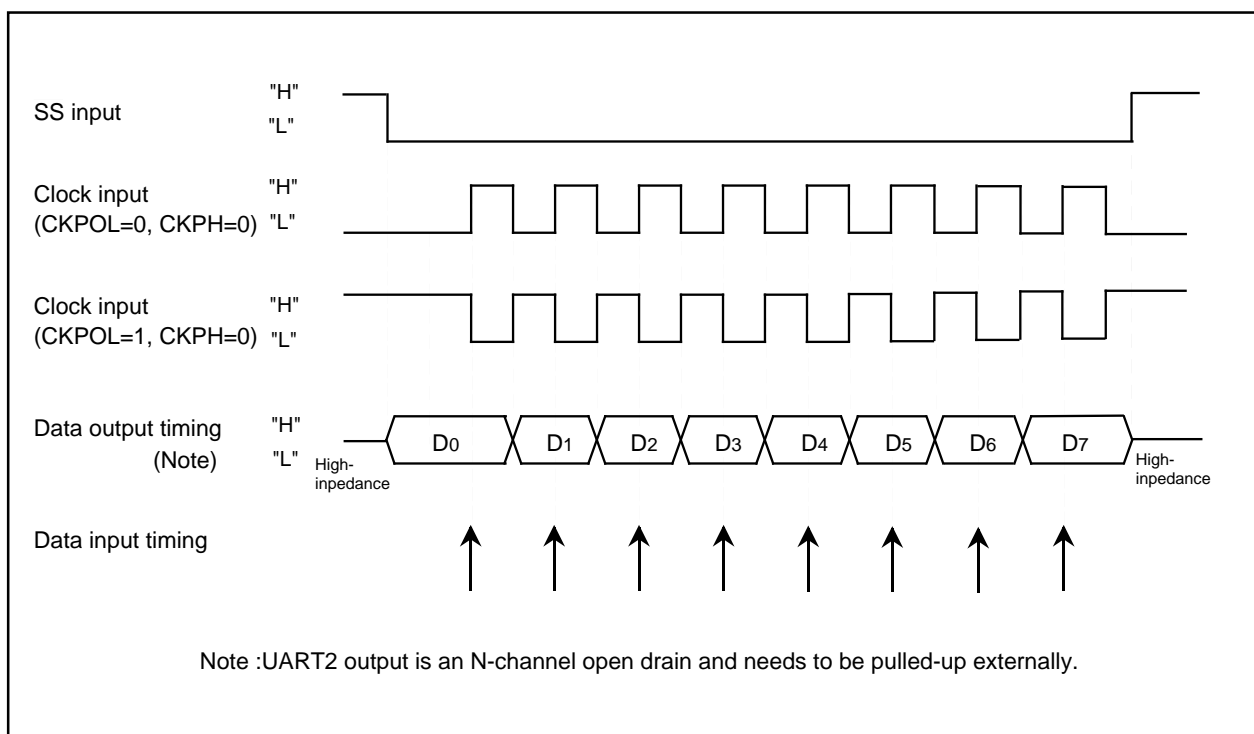

Figure 1.21.9. The transmission and reception timing (CKPH=1) in slave mode (external clock)
- With "1" for CKPH bit, when an \overline{SSi} input pin is H level, output data is high impedance. When an \overline{SSi} input pin is L level, the first data is output. After that, serial transmission is synchronized with the clock. Figure 1.21.9 shows the thing.